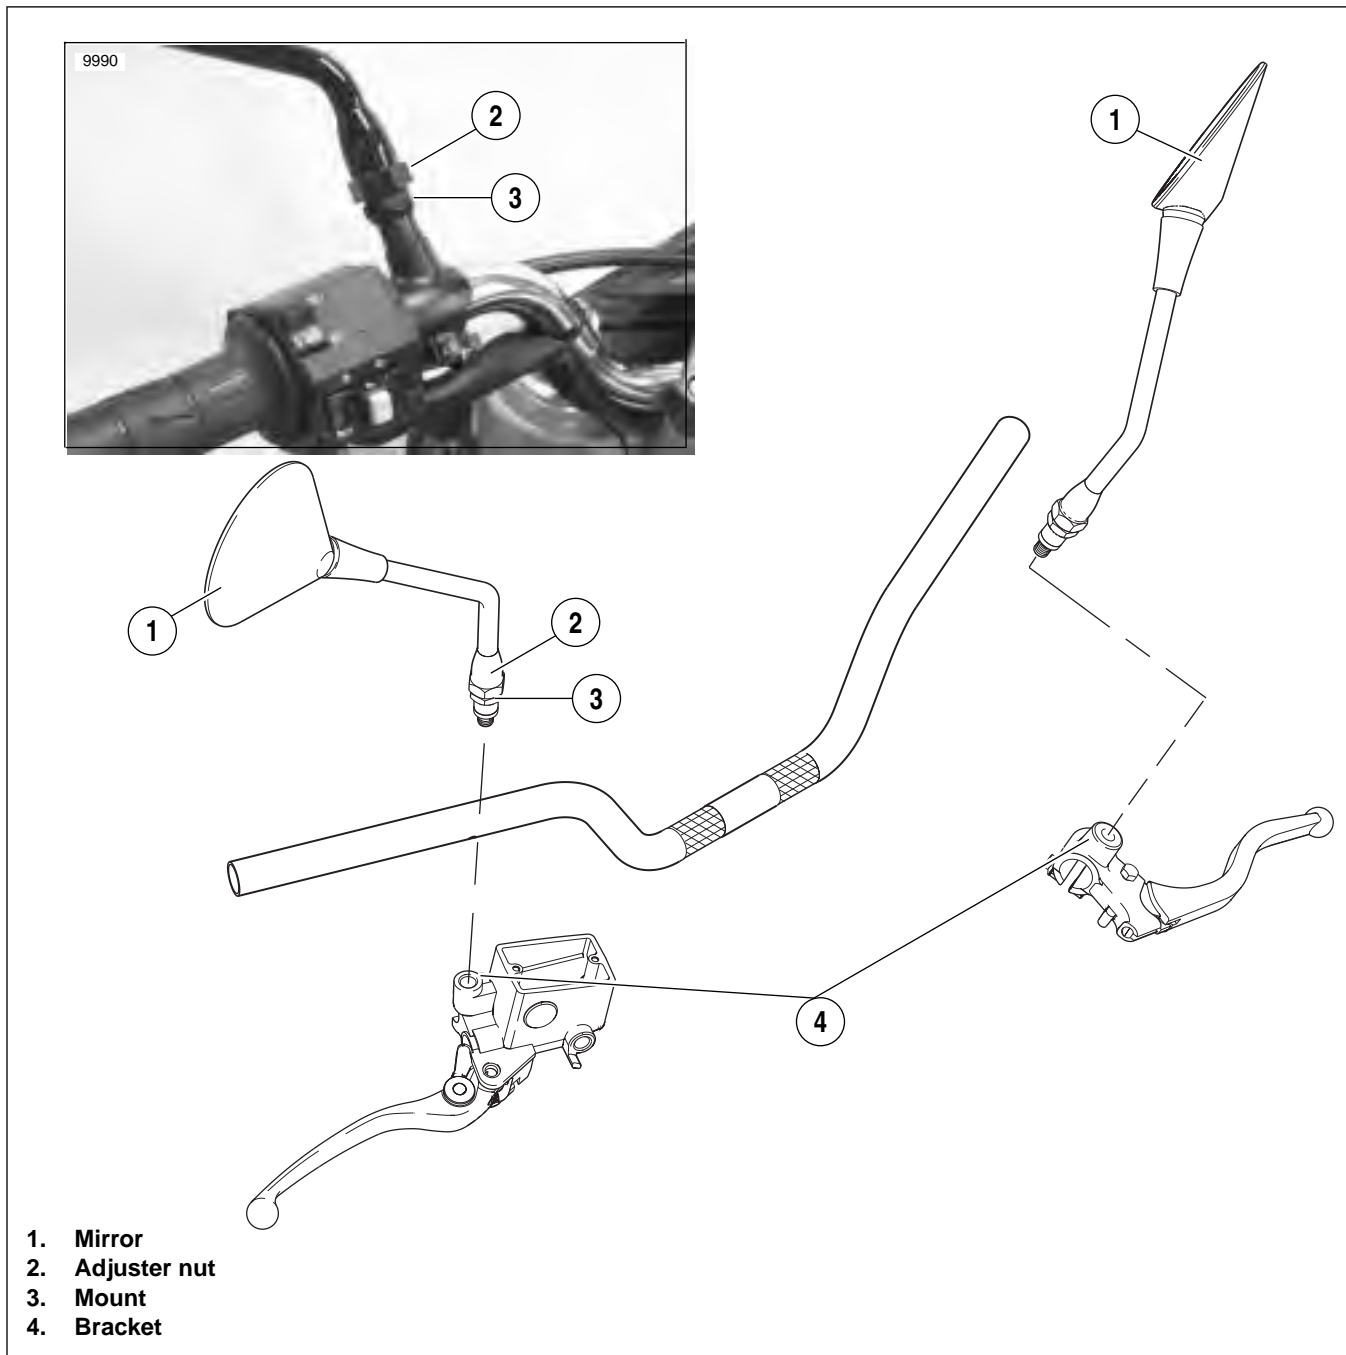

Figure 2-111. Mirrors and Mounting Hardware (Typical)
1. See Figure 2-111. Loosen adjuster nut (2) and remove mirror (1) from mount (3).
2. Loosen mount (3) and remove from bracket (4).
1. See Figure 2-111. Install mount (3) onto bracket (4) and tighten to 20-22 ft-lbs (27.1-29.8 Nm).